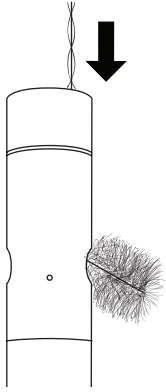

Figure 63 Channel brush
2. Insert the brush at the top of the channels, and sweep the channels 15 to 20 times (Figure 63).